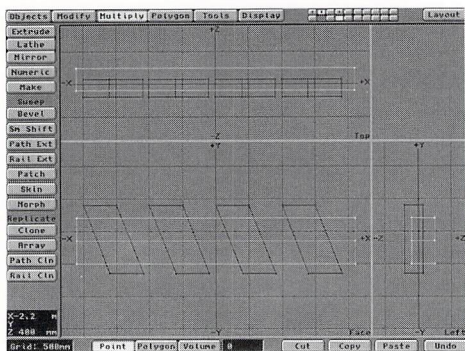

Figure 2
- Now, make the white diagonal lines that go across the clapper part of the object. With the clapboards in a background layer, draw out a box in a new layer that intersects on the Z and is taller on the Y. Select the top points of the box and drag to the left to put a slant in the box. Clone this three times (Multiply menu) with an offset of one meter on the X (Figure 2). Give a surface name to the original object of "Black."